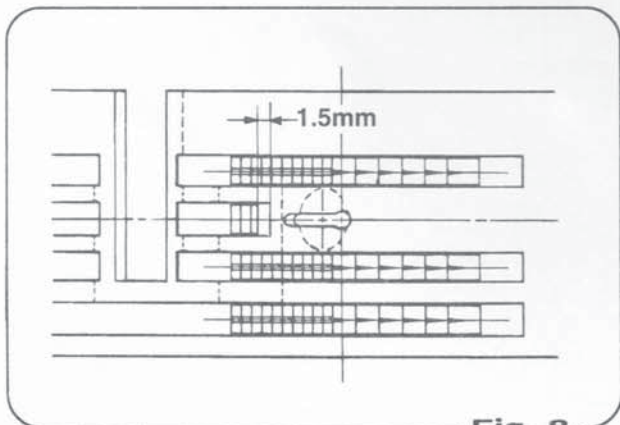

Fig. 8
- a) Ensure that the feed dog does not touch the throat plate as it passes through. A clearance of 1.5mm should be seen between the middle teeth of the front feed dog and the throat plate as indicated (Fig.8).
送料齿最前进时，针板沟和送料齿间隙应有 1.5mm (图 8)，请放松送机构根基(#304201)螺钉，而调整其间隔。